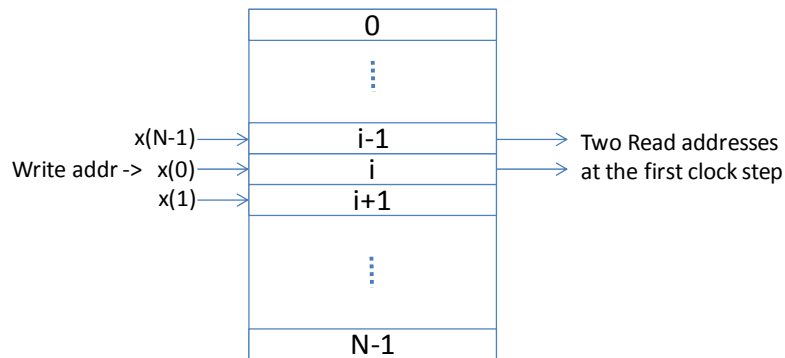

Figure 7. Circular buffer read and write addresses for a N-tap partially parallel FIR filter
- In every clock cycle, two MACs are working in parallel. Therefore, in every clock cycle, the FSM should generate two addresses to read samples from the circular buffer (figure 7).